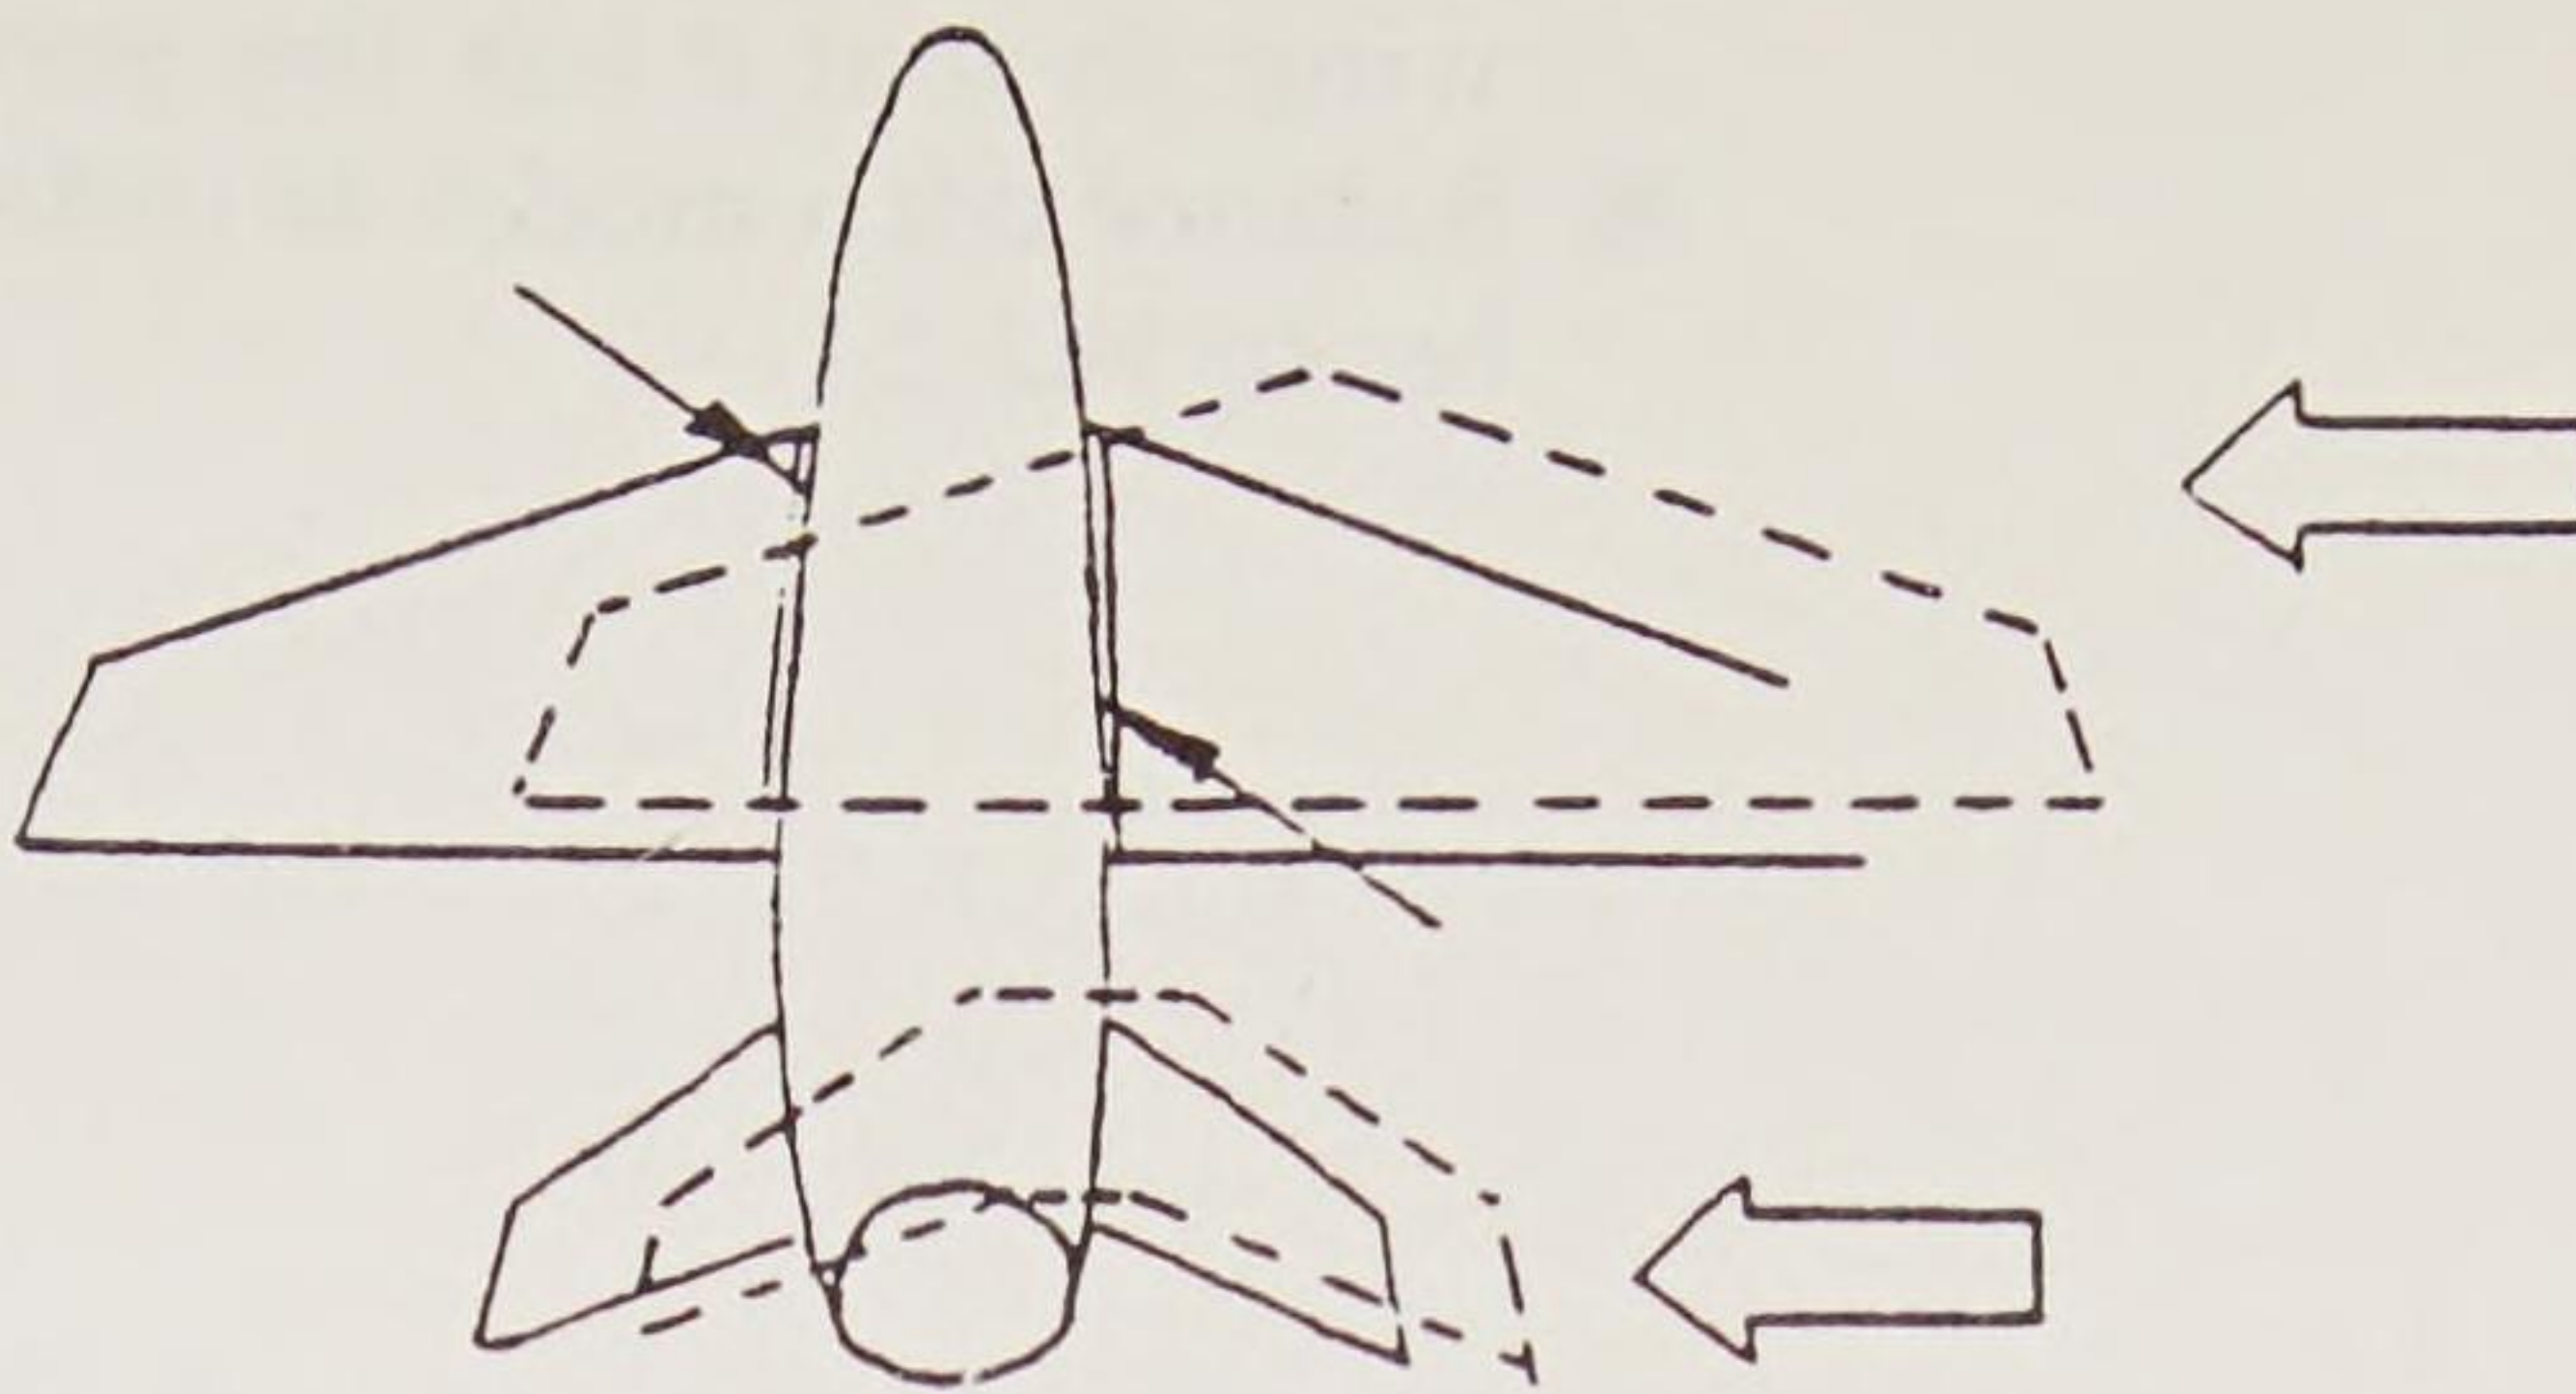

Fig. 12. Insert the wing and tail into the slots cut in the fuselage. Align the fuselage by the lines shown on the wing.
- 5 Cut slots for the wing and stabilizer as described earlier. Insert the wing through slots in the fuselage. Align the fuselage along the lines shown on the wing. Be sure the fuselage is centered from side to side and that it is not angled to either side. Tape the wing to the fuselage sides. (FIG. 12)